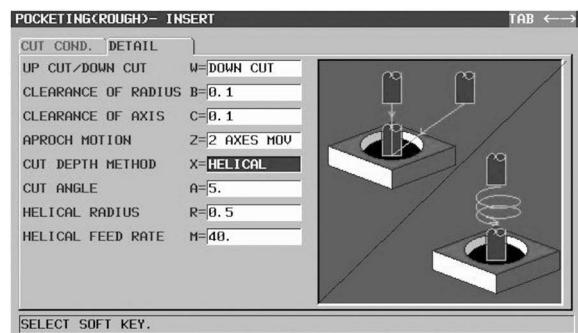

Figure 7-59 POCKETING (ROUGH),
- Complete the POCKETING (ROUGH) DETAIL tab per Figure 7-59. Set the CUT DEPTH METHOD in the POCKETING dialog on the DETAIL tab to X=HELICAL. Note the two soft key choices of STRAIGHT or HELICAL.